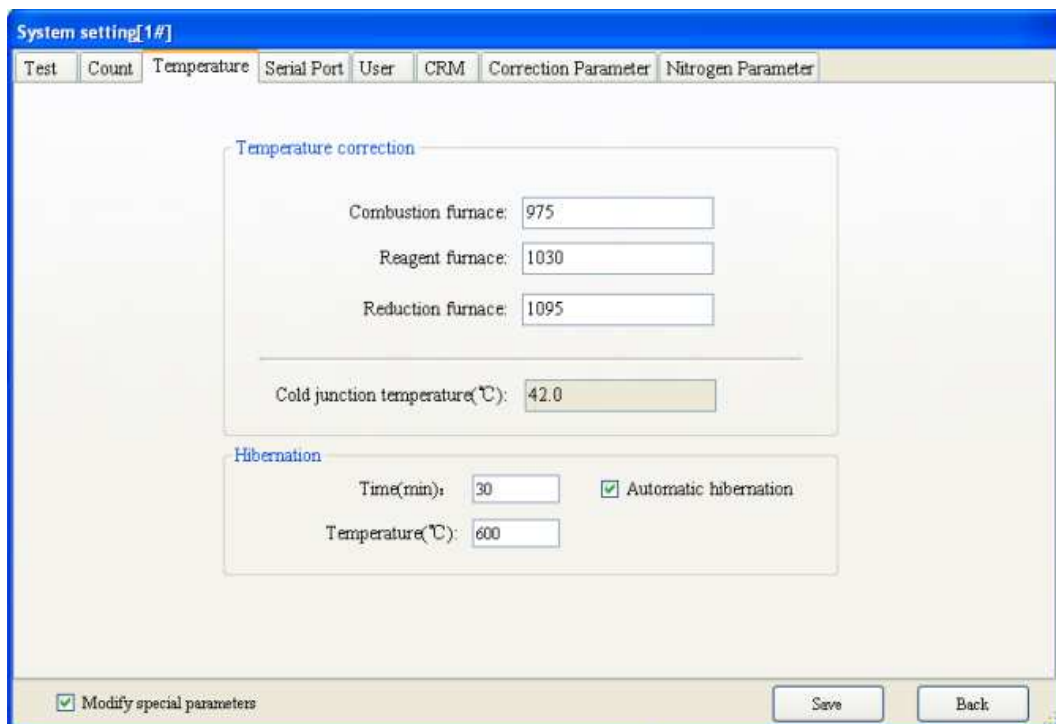

Fig. 4-3-4
2. Temperature: Click on “Temperature” tab in “Test setup” window, window as Fig 4-3-4 will popup.